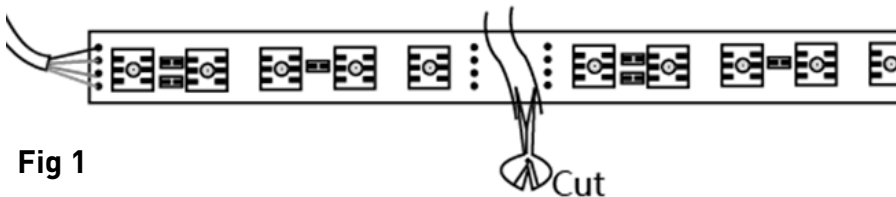

Fig 1
- When cutting the LED Flex, ensure it is only cut along the line indicated between the copper connections, approximately every 167mm along the strips' length (see Fig 1)